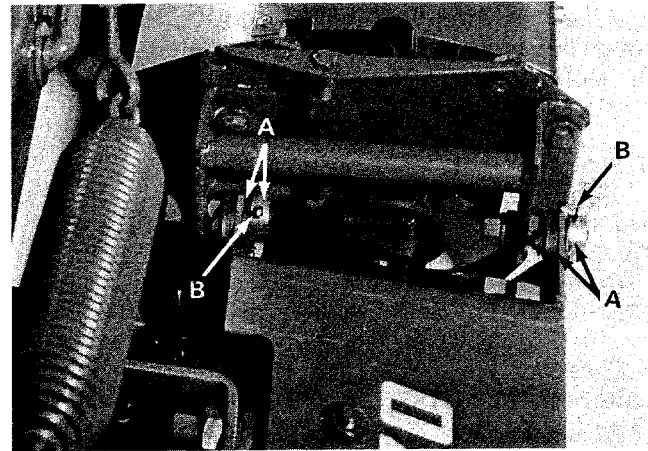

Figure 8
10. Add flat washers and collars "A" to pivot studs and install cotter pins "B" through collars and pivot studs to secure cutting units to frame (Fig. 8).